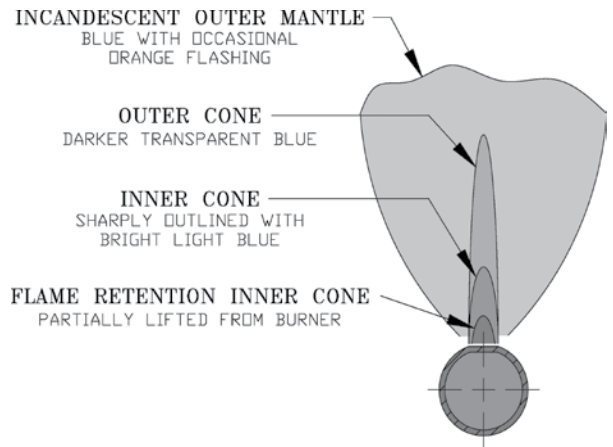

Figure 10: 1 Inch Main Burner Flame
6. Check main burner flames. See Figure 10 or 11. Flame should have clearly defined inner cones with no yellow tipping. Orange-yellow streaks caused by dust should not be confused with true yellow tipping. If yellow flames are observed, follow instructions TO TURN OFF GAS TO APPLIANCE (see Figure 4, 5 or 6) and contact a qualified service agency.